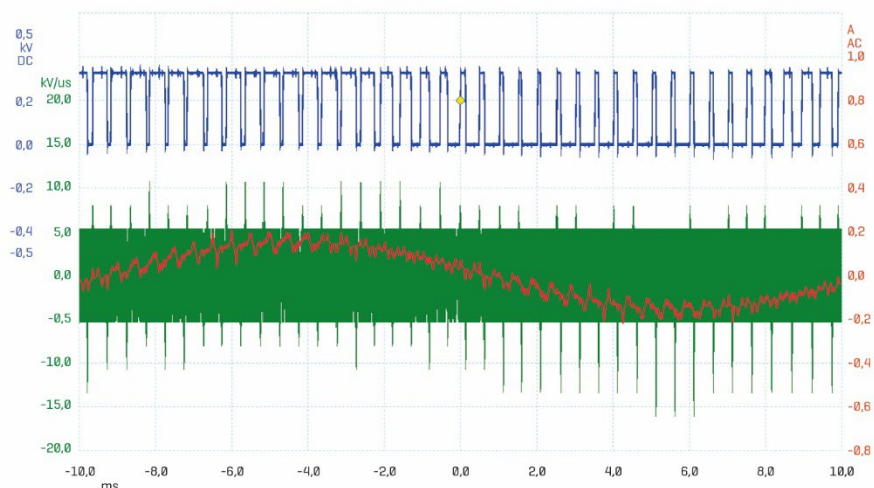

Figure 9: High noise with 8-bit / 2 ns
- b) 8-Bit AD resolution / 2 ns sampling time (Fig. 9)
Figure 9 shows that a **low** AD resolution (8-bit) and a **short** sampling time (2 ns) result in **high** noise.
The difference in noise is clearly visible. In Figure 9 the noise is even higher than a frequently used limit value ($> 5\text{ kV}/\mu\text{s}$) and would thus be unusable for this limit value measurement.